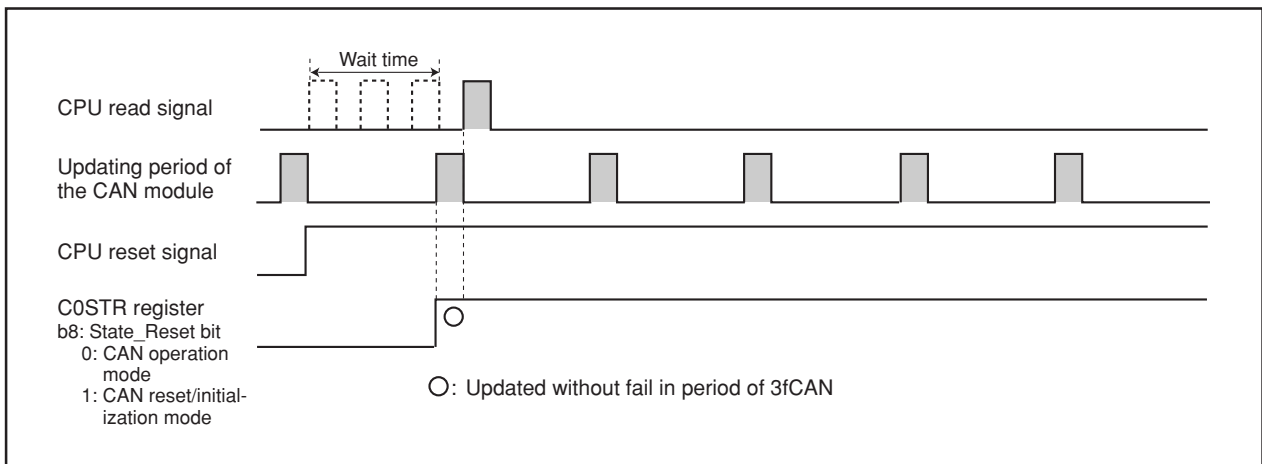

Figure 22.6 With a Wait Time of 3fCAN Before CPU Read
- (a) There should be a wait time of 3fCAN or longer (see **Table 22.3 CAN Module Status Updating Period**) before the CPU reads the C0STR register. (See **Figure 22.6 With a Wait Time of 3fCAN Before CPU Read.**)